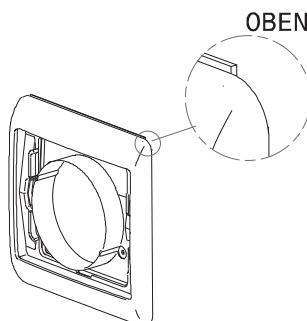

Figure 2
- Insert seal (5) into the frame from the rear (Figure 2) as illustrated. Note the proper direction (marking **TOP/OBEN**).